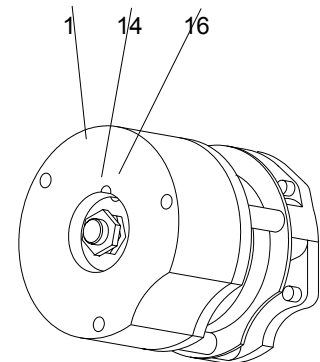

figure 27: Adjusting nut for clutch power
(see figure 27)
**Caution!** If, after a long period of use (about 500,000 brake operations), the air gap between the magnetic coil (1) and anchor plate (2) has increased to approx. 0.8 mm, the brake must be adjusted as follows:
1. Put thickness gauge between magnetic coil (1) and anchor plate (2) (inserting not more than 10 mm).
2. Tighten the 3 lock nuts until the air gap between magnetic coil and anchor plate reaches the dimension in fig 27.